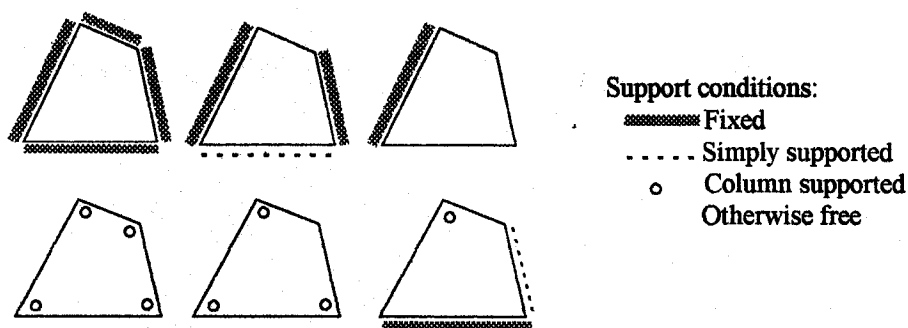

Fig. Q1a
1. (a) State the basic rules relating to the development of yield lines, and indicate probable yield line patterns for the slabs shown in Fig. Q1a.